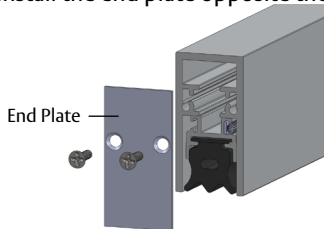

Figure 4 - Properly Installed End Plate
3. Install the end plate opposite the plunger, with the "This Side In" sticker towards the ADB, using the end plate screws as shown in Figure 4